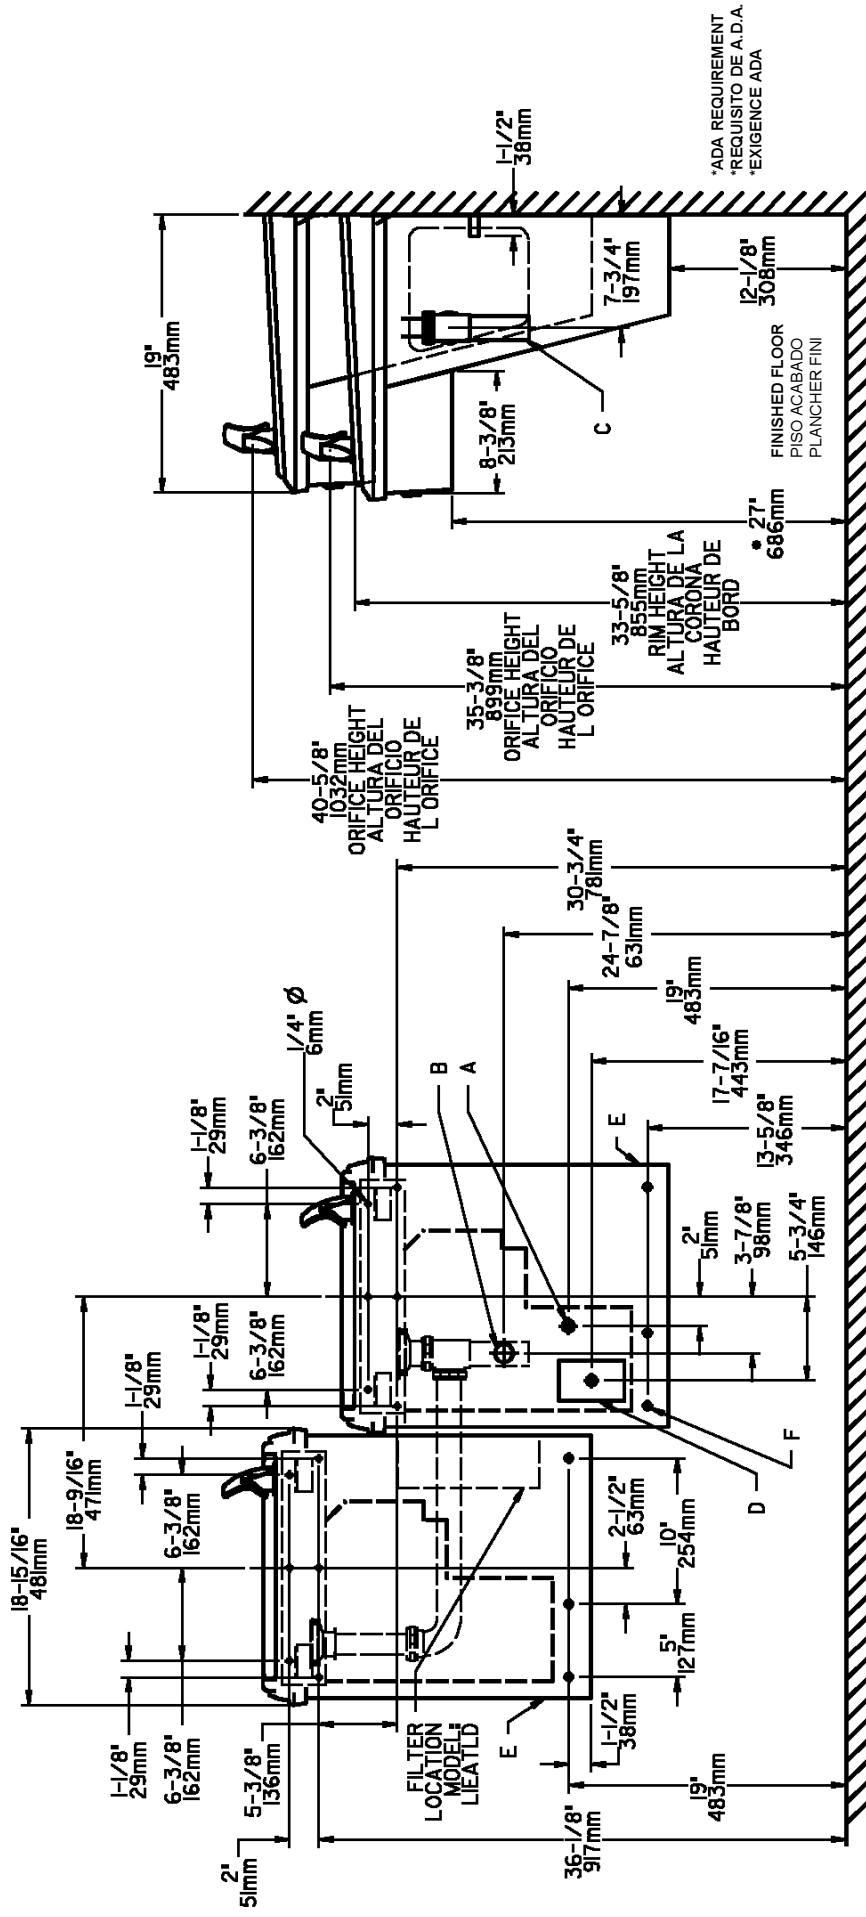

FIG. 2
- 1) Remove hanger bracket fastened to back of cooler by removing one (1) screw.
- 2) Mount the hanger bracket and trap as shown in Figure 2. **NOTE:** Hanger Bracket **MUST** be supported securely. Add fixture support carrier if wall will not provide adequate support.
- 4) Hang the cooler on the hanger bracket. Be certain the hanger bracket is engaged properly in the slots on the cooler back as shown in Figure 2.
- 5) Loosen the two (2) screws holding the lower front panel at the bottom of cooler base and two (2) screws at the top. Remove the front panel and set aside.